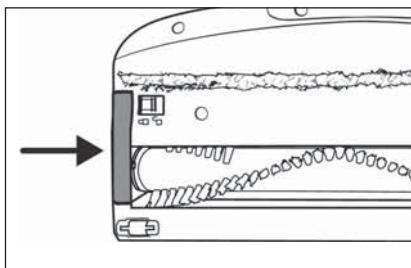

Fig. 32
- 5) Insert the rotary brush ②1 into the floor brush ②2. Turn the rotary brush ②1 slightly to make it easier to insert.
- 6) Put the rotary brush holder ②0 back into the floor brush ②2. Push it down until it audibly clicks into the floor brush ②2 (see Fig. 32).